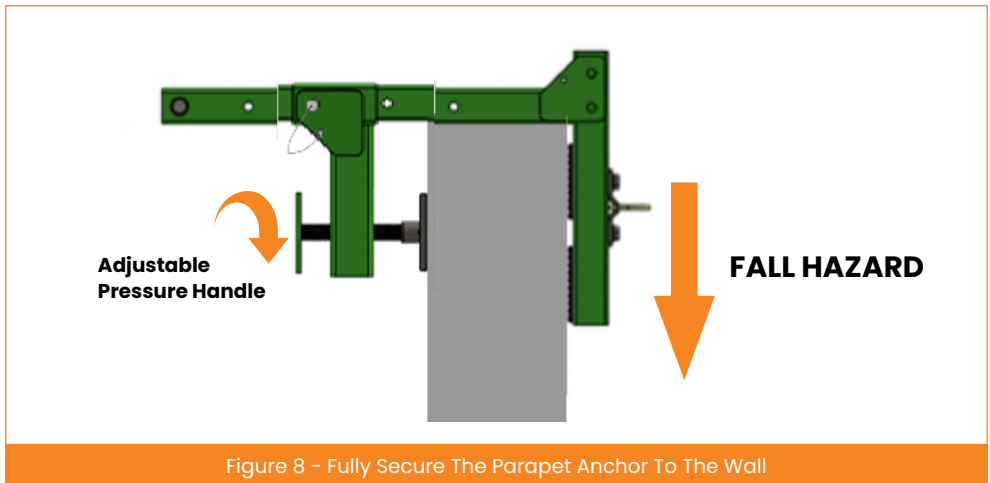

Figure 8 – Fully Secure The Parapet Anchor To The Wall
5. Now, turn the adjustable pressure handle clockwise in order to tighten onto the inner parapet wall as tight and with as much pressure as possible to fully secure the parapet anchor to the wall as shown on figure 8.